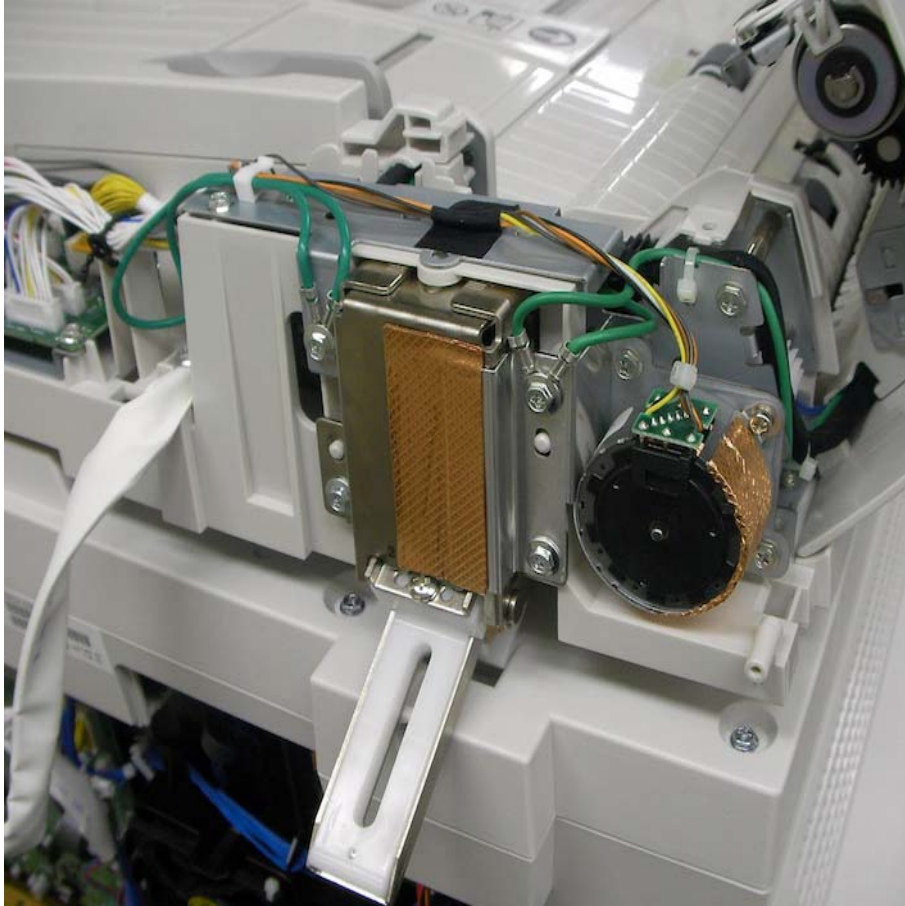

Figure 2 Remove Right Counter Balance
5. Remove the Right Counter Balance (Figure 2).